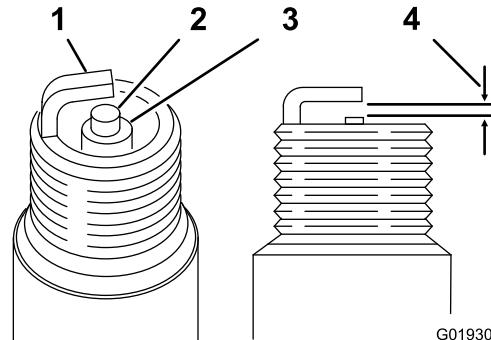

Figure 45
1. Look at the center of the spark plug (Figure 45). If you see light brown or gray on the insulator, the engine is operating properly.
1. Check the gap between the center and side electrodes (Figure 45) if the gap is not correct.